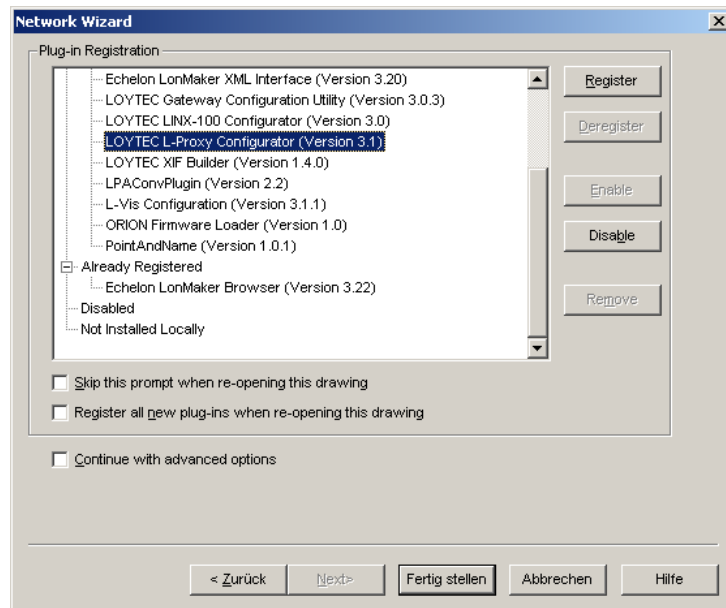

Figure 57: Select the Plug-in to be registered.
2. Click **Next** until the plug-in registration tab appears in the Network Wizard. Select the **LOYTEC L-Proxy Configurator (Version X.Y)** from the list of **Not Registered** (see Figure 57).